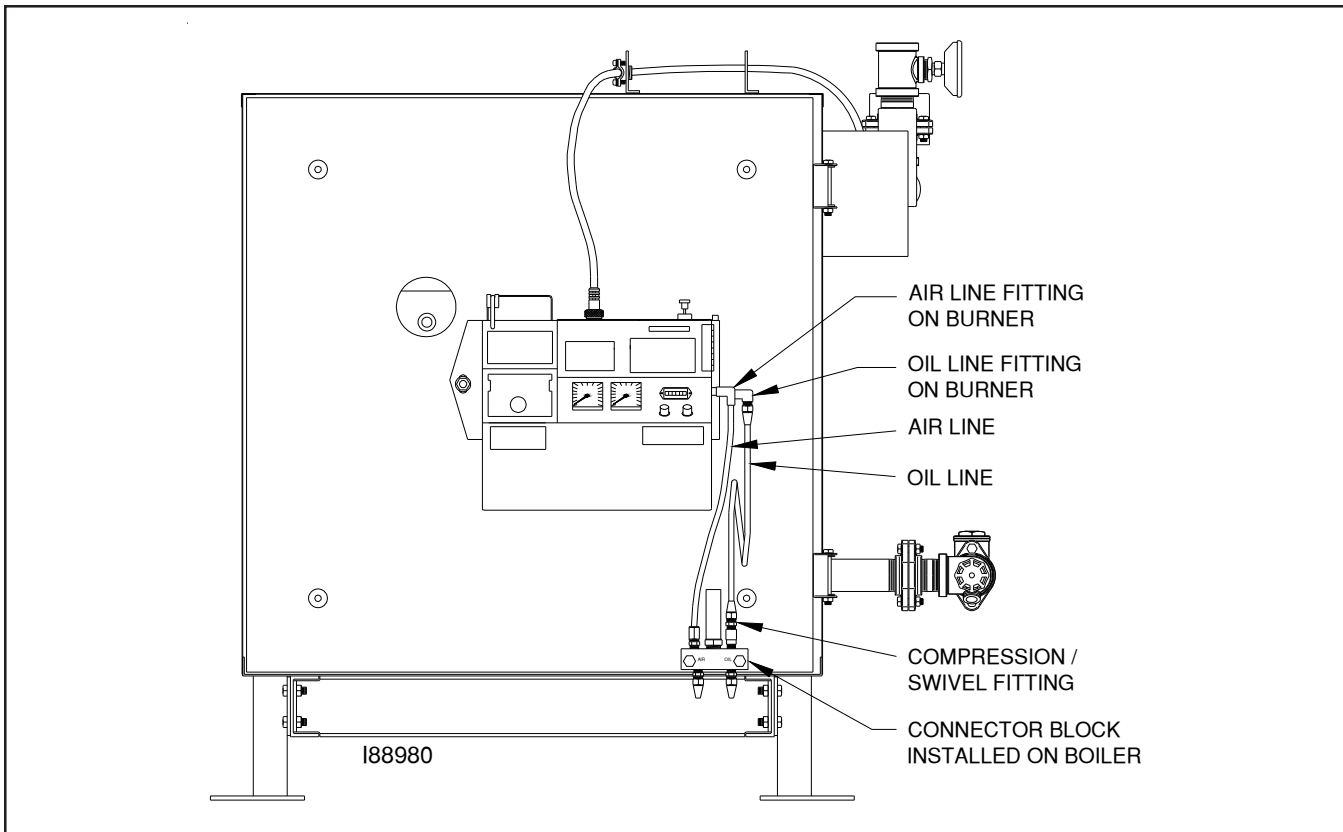

Figure 3J - Installation of Connector Block, Oil Line and Air Line (Front View)
NOTE: You may also check the positioning of the oil line according to Figure 3J on the next page which provides a larger front view of the connector block assembly.
2. Refer to Figure 3J. Push the air line tubing into the fitting on the connector block until the tubing bottoms out in the fitting.